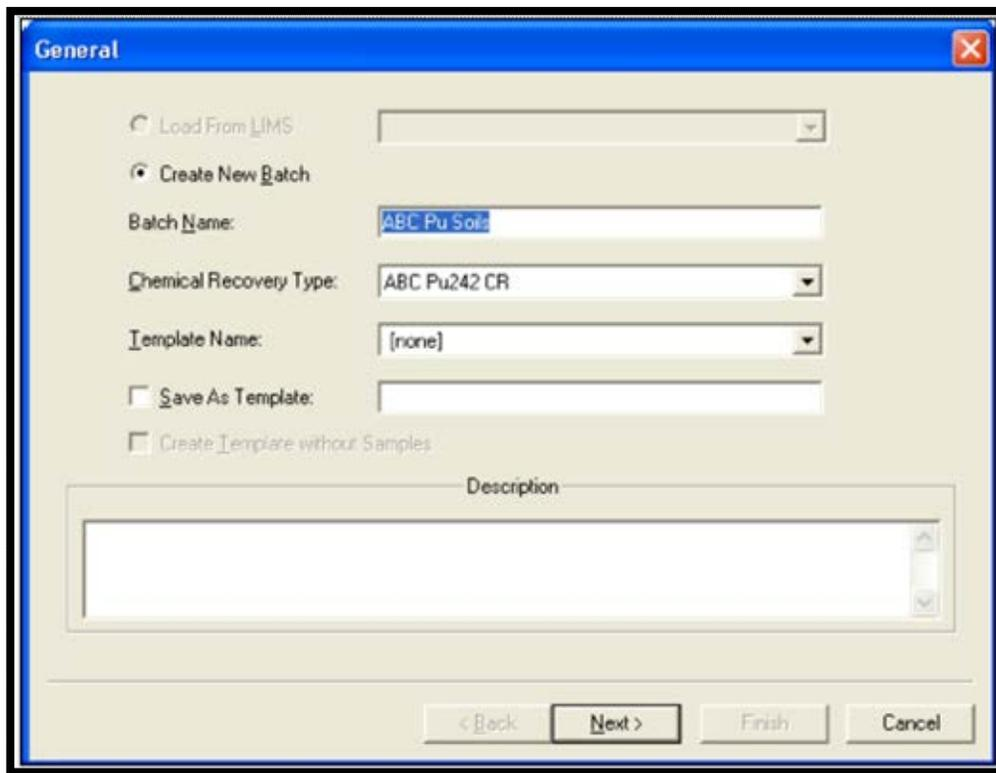

Figure 173. Batch Wizard Page - General
- 1) Start the Batch Wizard by clicking **Process Batch** on the Toolbar. This will open the first Batch Wizard page, General (Figure 173).